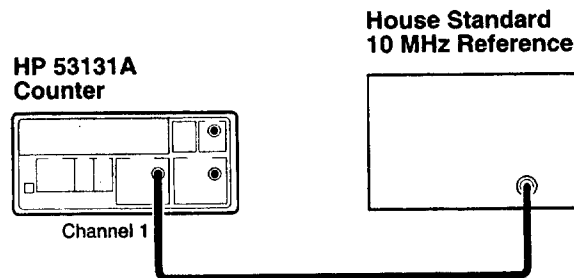

Figure 2-4. Standard Timebase Calibration Setup
- 1 Connect the output of a 10 MHz house standard to Channel 1 of the Counter as shown in Figure 2-4.**
- 1 Connect the output of a 10 MHz house standard to Channel 1 of the Counter as shown in Figure 2-4.